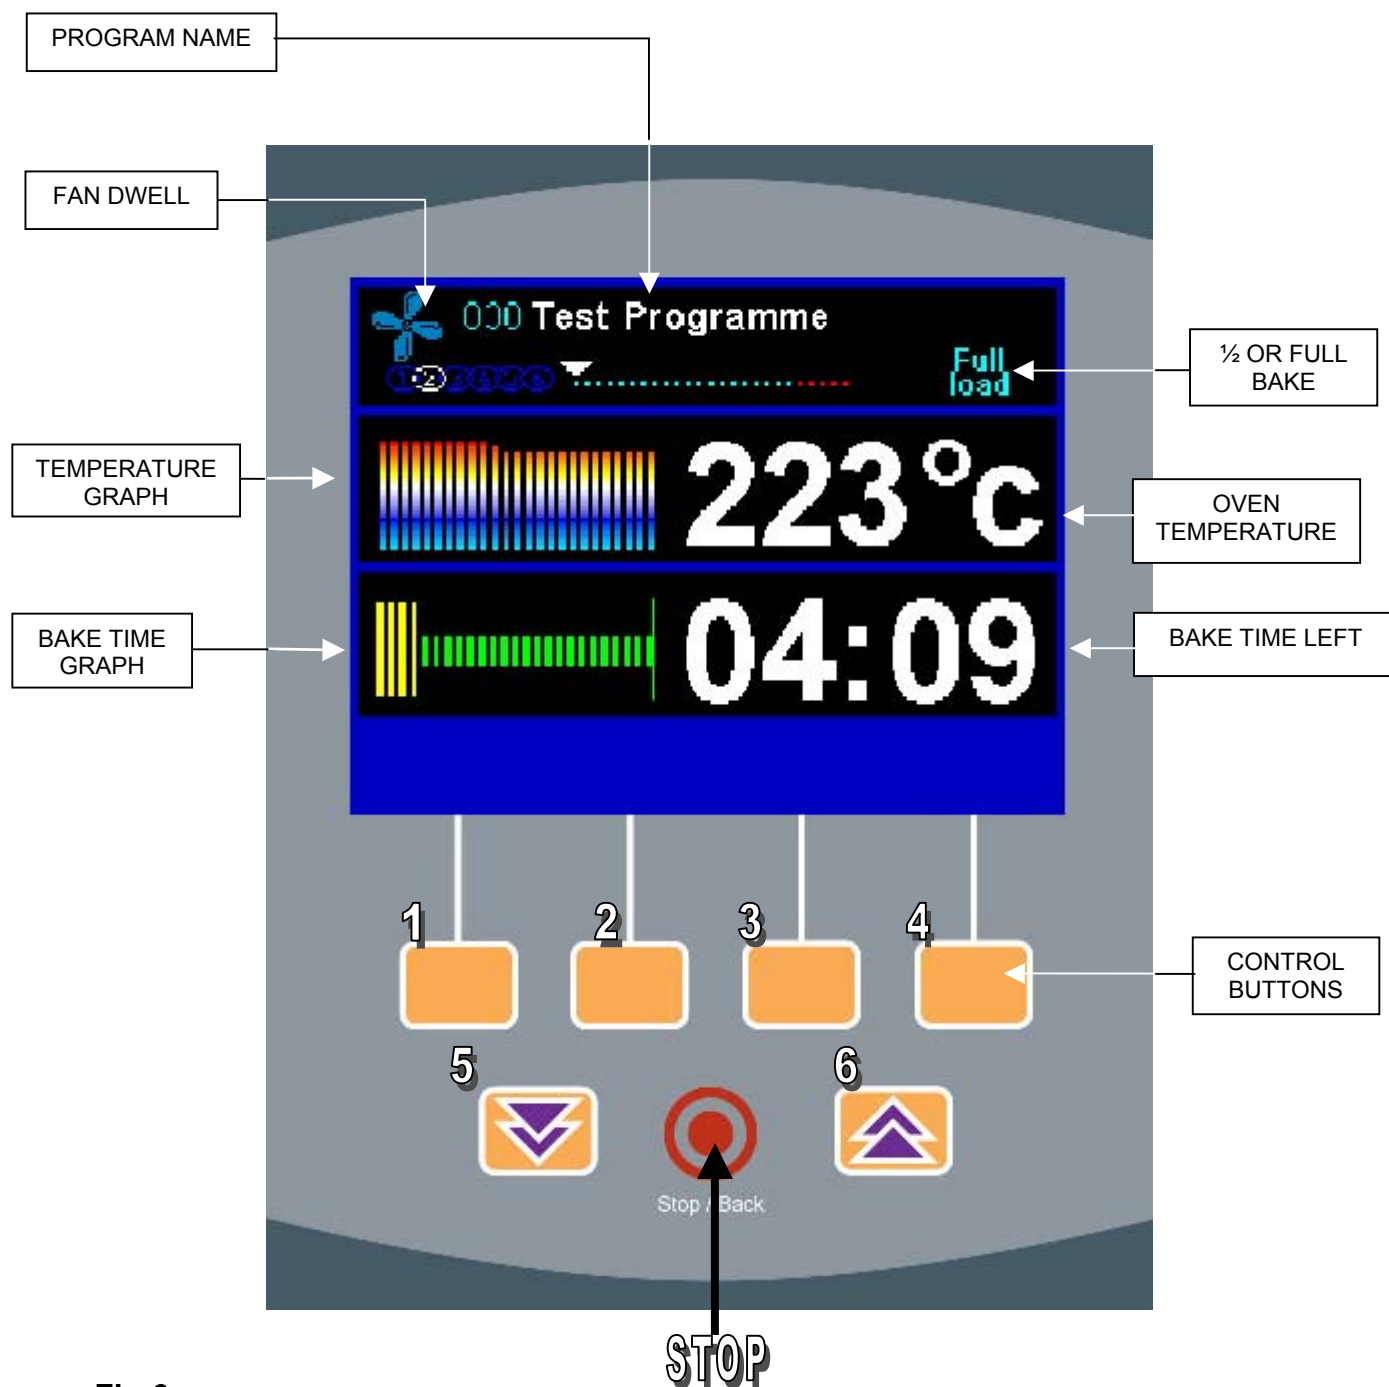

Fig 6
(5)=10 places **down** and (6) = 10 places **up** (see fig 6)